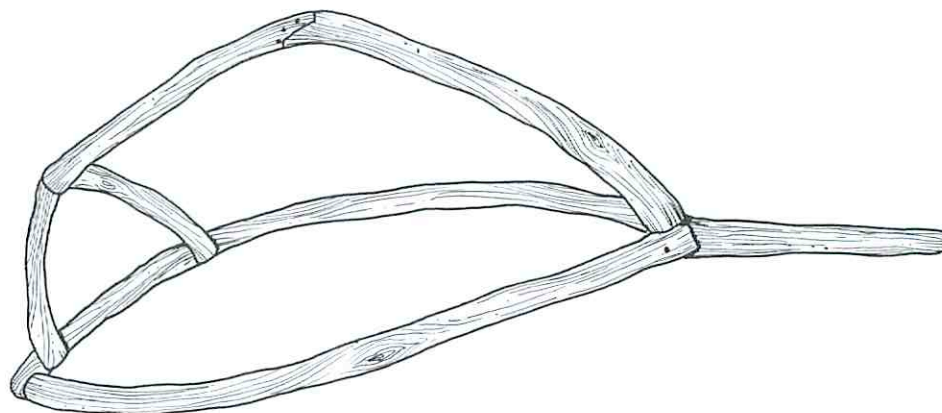

Figure 1
As you can see in Fig. 1, the boat is constructed upside down (at least in the first stages). A picnic table makes for a good place to build the frame.
You'll be assembling the frame as shown in Fig. 1. Pre-drill holes in the two gunwale pieces (A) and connect together with lag bolts. To create the keel (B) out of your two pieces of driftwood, you'll need to cut the two